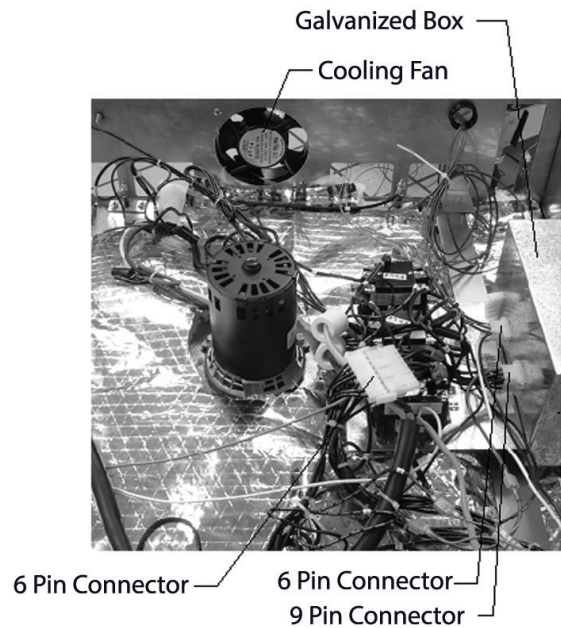

Figure 1
3. Move cooling fans from inside to outside panels of cabinet as shown in figure 1.
9. Reconnect the original 9-pin connector to the back side of the new galvanized can (figure 1).
10. Connect the new 6-pin connector, provided with kit, to back side of new galvanized can (figure 1).
11. Remove old air and water probes and replace with new probes provided with kit (figure 1).
12. Connect new water probe wires (blue) to new 6-pin connector blue wires (figure 1).
13. Connect new air probe wires (red) to new 6-pin connector red wires (figure 1).
14. Insert connector-end of pink wire (from new white and pink wire harness) into # 6 position (the only one open) of the 8-pin connector (figures 1 and 2).